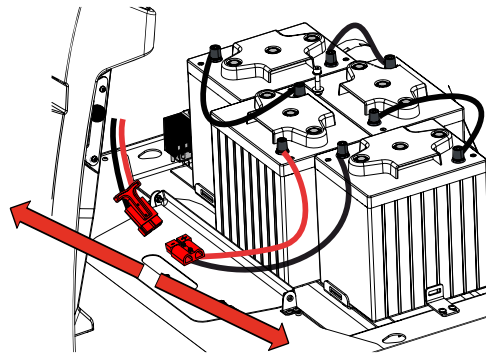

Fig. 29
- Disconnect plug (Ch. 4.9.5, Fig. 29). The battery plug is firmly fitted to the flap. • Connect charger plug to battery plug
- Disconnect charging plug (Fig. 29)